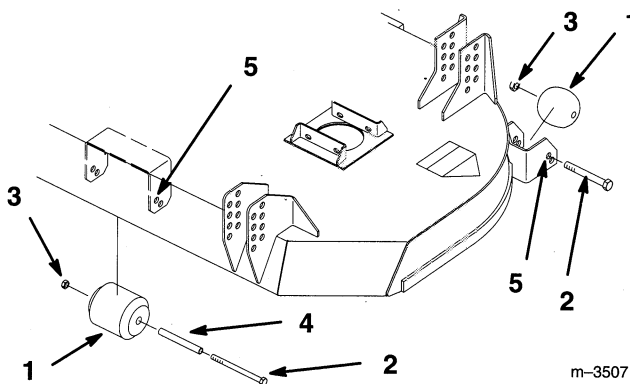

Figure 17
2. Remove the locknut and bolt to change hole location (Fig. 17).
3. Select the proper hole position for the height-of-cut to be used (Fig. 17).